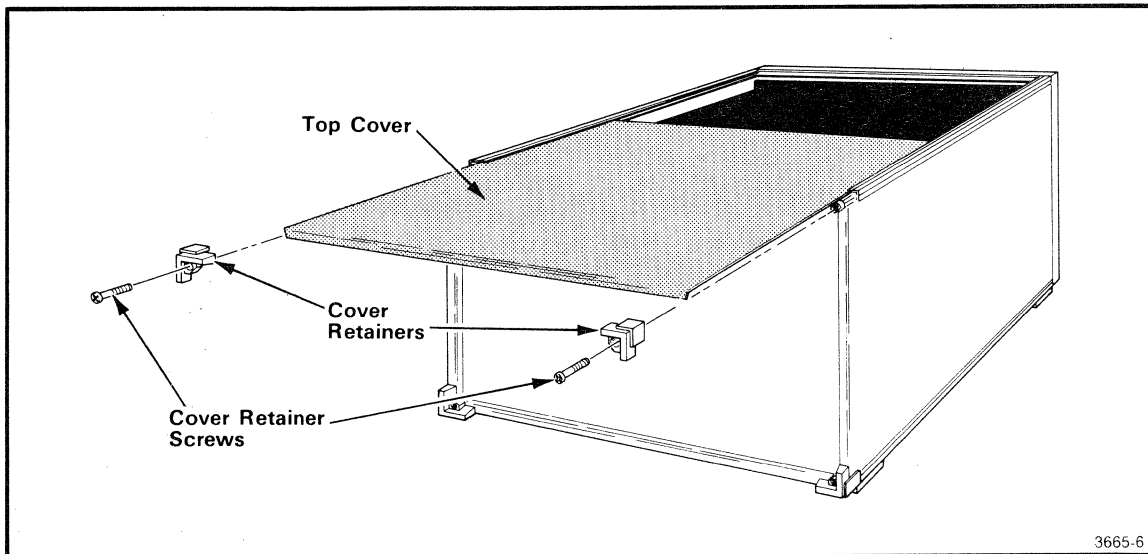

Figure 6-1. Removal/installation of the top cover.
2. Remove the two cover retainers at the upper rear corners of the mainframe. Figure 6-1 illustrates the top cover removal.
15. Install the cover retainers at the upper corners on the rear of the mainframe, as shown in Figure 6-1. Tighten the cover retainer screws securely.